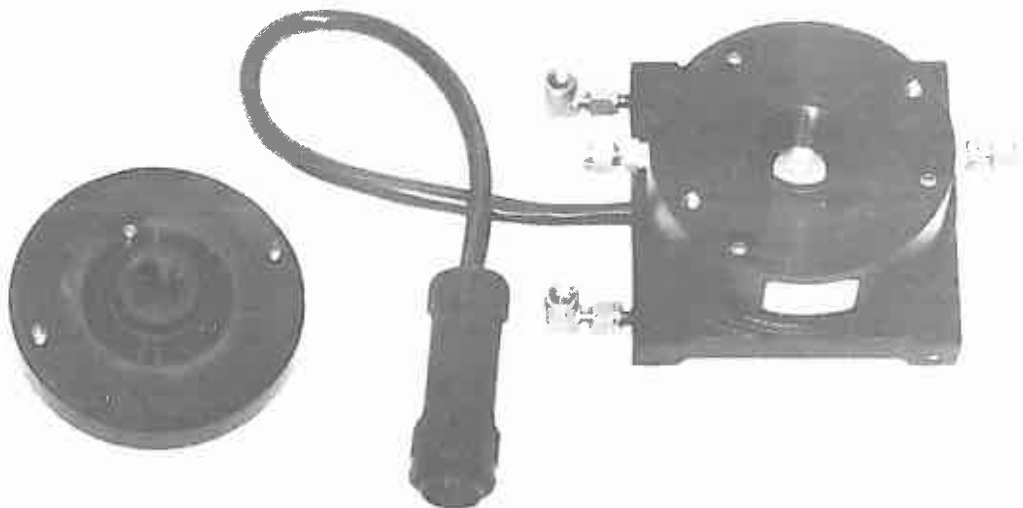

Figure 6-1. Model 300 Sensor Disassembled for Cleaning.
6.2.2 Model 300 Sensor Cleaning—How to Clean the Sensor (Figure 6-1)